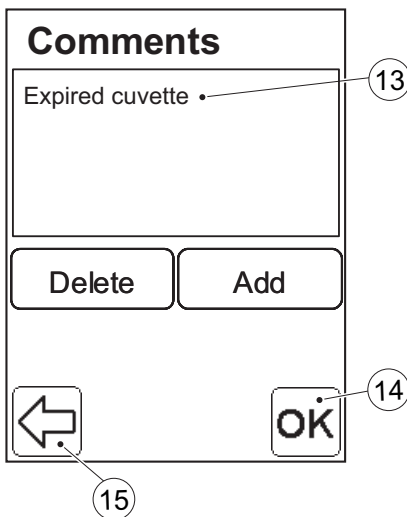

FIGURE 4-23
- c) To add comments to the result from the first Cuvette, follow the same procedure as in 4.1.3 *Entering Comments*, FIGURE 4-19 to FIGURE 4-23.
- e) To add comments to the result from the second Cuvette follow the same procedure as in 4.1.3 *Entering Comments*, FIGURE 4-19 to FIGURE 4-23.